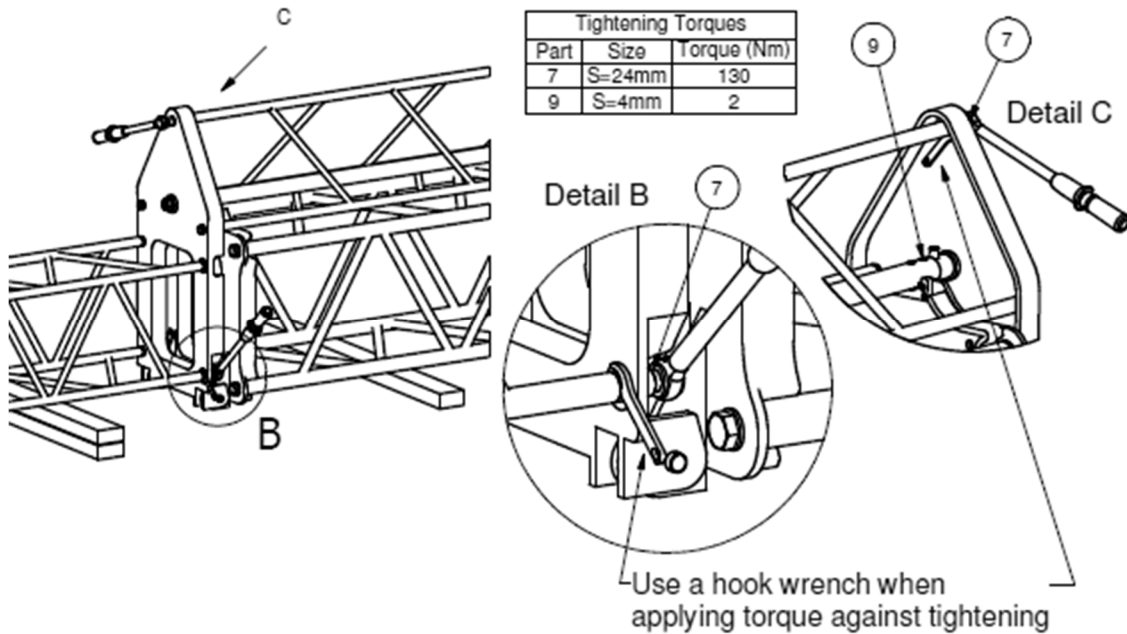

FIGURE 13. TIGHTENING CENTRE HINGE SCREWS
- If the locking arm clamp sits like shown in figure 13, you can tighten all the screws in the clamp.